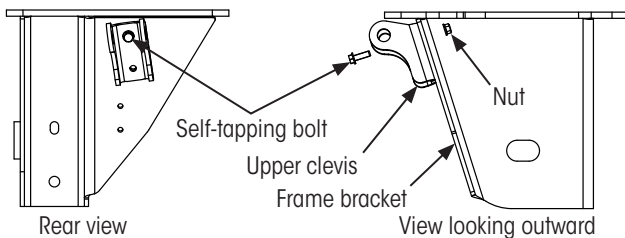
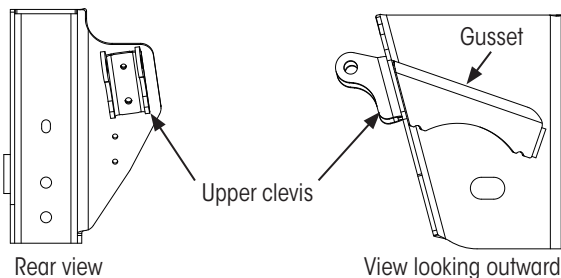

Figure 2: INTRAAX winged frame bracket requiring upper clevis reinforcement bolt
Figure 3: INTRAAX wingless frame bracket
This procedure is only required for INTRAAX AANT 23K suspensions with winged frame brackets (Figure 2). For INTRAAX suspensions with wingless frame brackets (Figure 3), a gusset in front of the wing provides adequate upper clevis support.
1. **Verify** the self-tapping bolt is not present (Figure 2).
2. **Insert** the self-tapping bolt into the upper clevis hole, as shown in Figure 2.